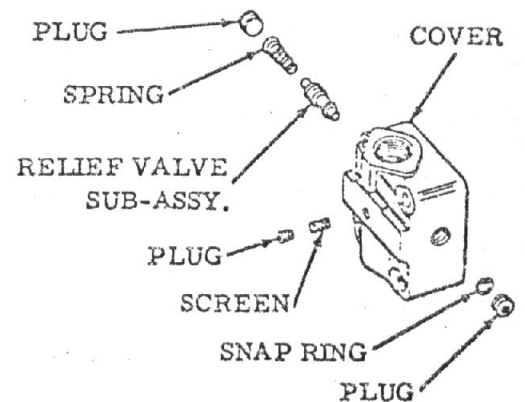

Figure2
(1) Disassembly of Basic Pump--See Figure 2. If a mounting flange or foot bracket is used, remove it before dismantling the pump. Clamp the pump body in a vise (not too tightly), cover end up, and remove the four screws. Note the position of the cover port with respect to the body port before lifting off the cover and "O" ring.
(2) Remove the pressure plate and spring and note the position of the ring for correct reassembly. Lift off the ring and remove the locating pin. Separate the vanes from the rotor and remove the rotor from the shaft.
(3) Turn the pump body over and remove the shaft key and the snap ring which retains the outer bearing. Tap with a soft hammer on the splined end of the shaft to force the shaft out of the body. Support the bearing inner race and press the shaft out of the bearing. Pull the shaft seal out of the body with a suitable hooked tool and press out the inner bearing.
(4) Disassembly of Flow Control and Relief Valve Covers--See Figure 2. If a screen is used in the cover, remove the plug and pull out the screen. Do not remove the orifice plug unless it is necessary. Check whether there is a plug at each end of the relief valve bore. If the bore is blind, remove the plug and the snap ring to release the valve and spring as shown in the inset view, Figure 2. If the bore is through the cover, remove only the one plug to release the spring and valve. Leave the snap ring and the other plug in the cover.
(2) Assembly of Flow Control Cover--See Figure 2. If the cover has a through bore, insert the valve in the bore, small land first. Then install the spring and pipe plug. For models with the blind bore, first install the spring, then the valve, with the hexagon head end first. Follow this with the snap ring (being certain it is firmly seated in the groove) and the pipe plug. Install the screen and the plug which retains it.
(3) Assembly of Pump--See Figure 2. Begin assembly by pressing the shaft into the front bearing while supporting the bearing inner race. Next, press the inner bearing into the body, using a driver which contacts the outer race only. Be certain both bearings are firmly seated.
(c) Place the pressure plate on the locating pins and flat against the ring. Use a small amount of petroleum jelly or grease to stick the spring in the recess in the pressure plate. Carefully install the cover with the outlet port in the correct position. Tighten the cover screw to the torque shown in Figure 2. Turn the shaft through by hand to insure that there is no internal binding. Install the shaft key.